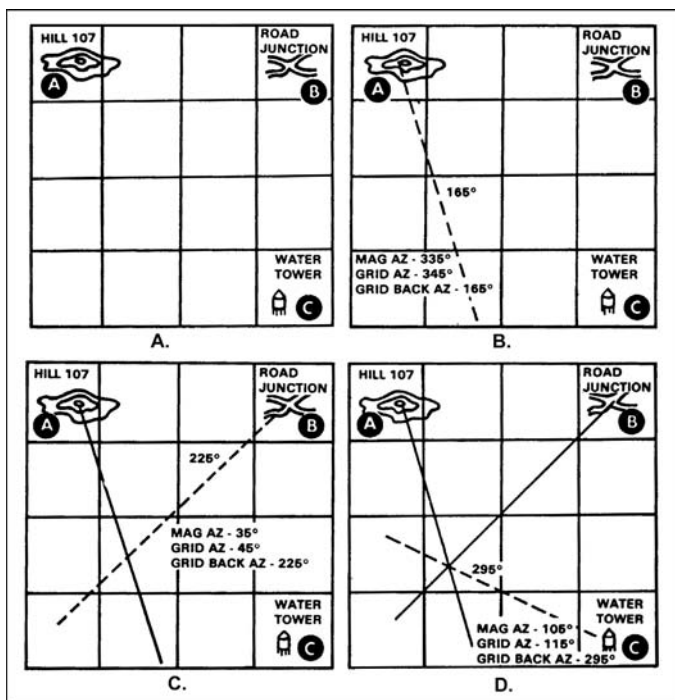

Figure 071-329-1015-1. Using the map and compass
1. Use the map and compass method (figure 071-329-1015-1).
- b. Locate two known positions on the ground and mark them on your map (A, figure 071-329-1015-1).